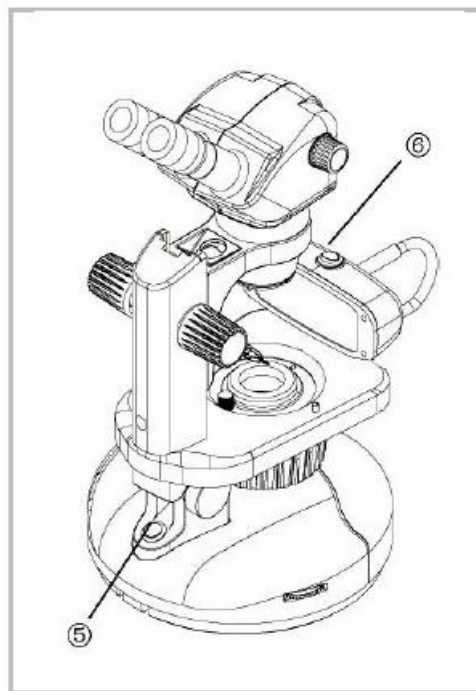

Fig. 10
- **Adjusting the Top Fluorescent Illuminator (Fig. 10)**